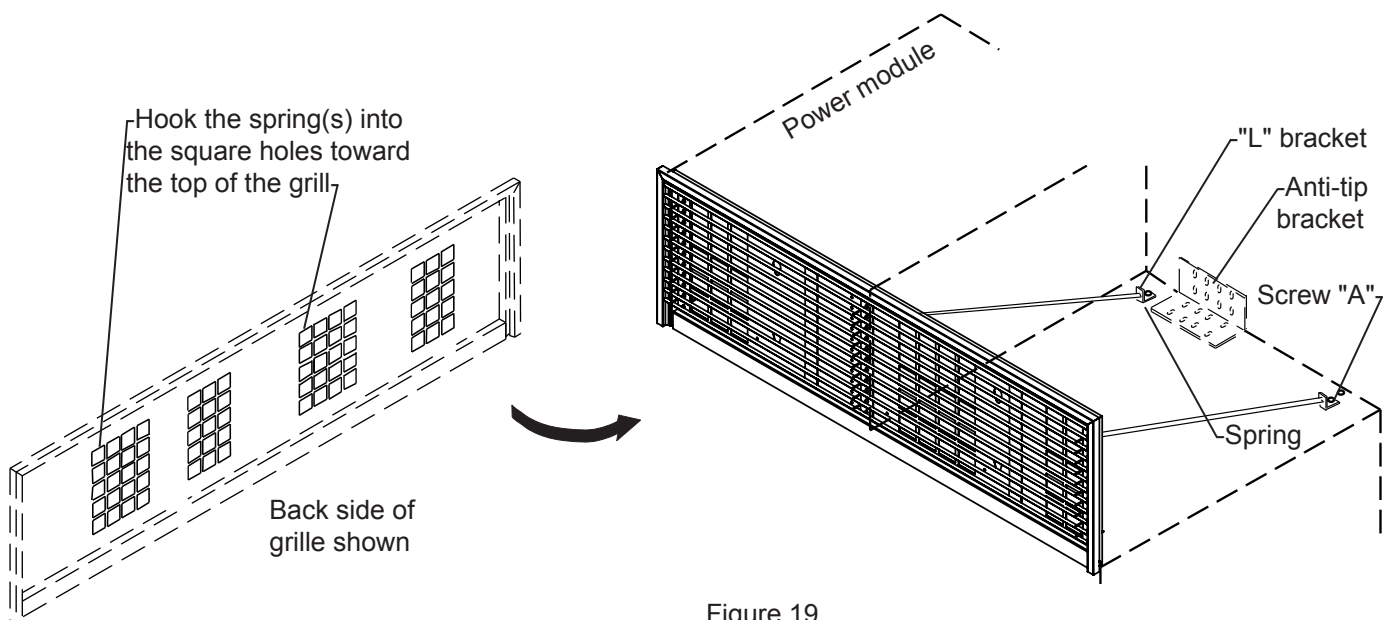

Figure 19
1. Remove screw A in mounting bracket. Mount L-bracket with screw A. See Figure 19.